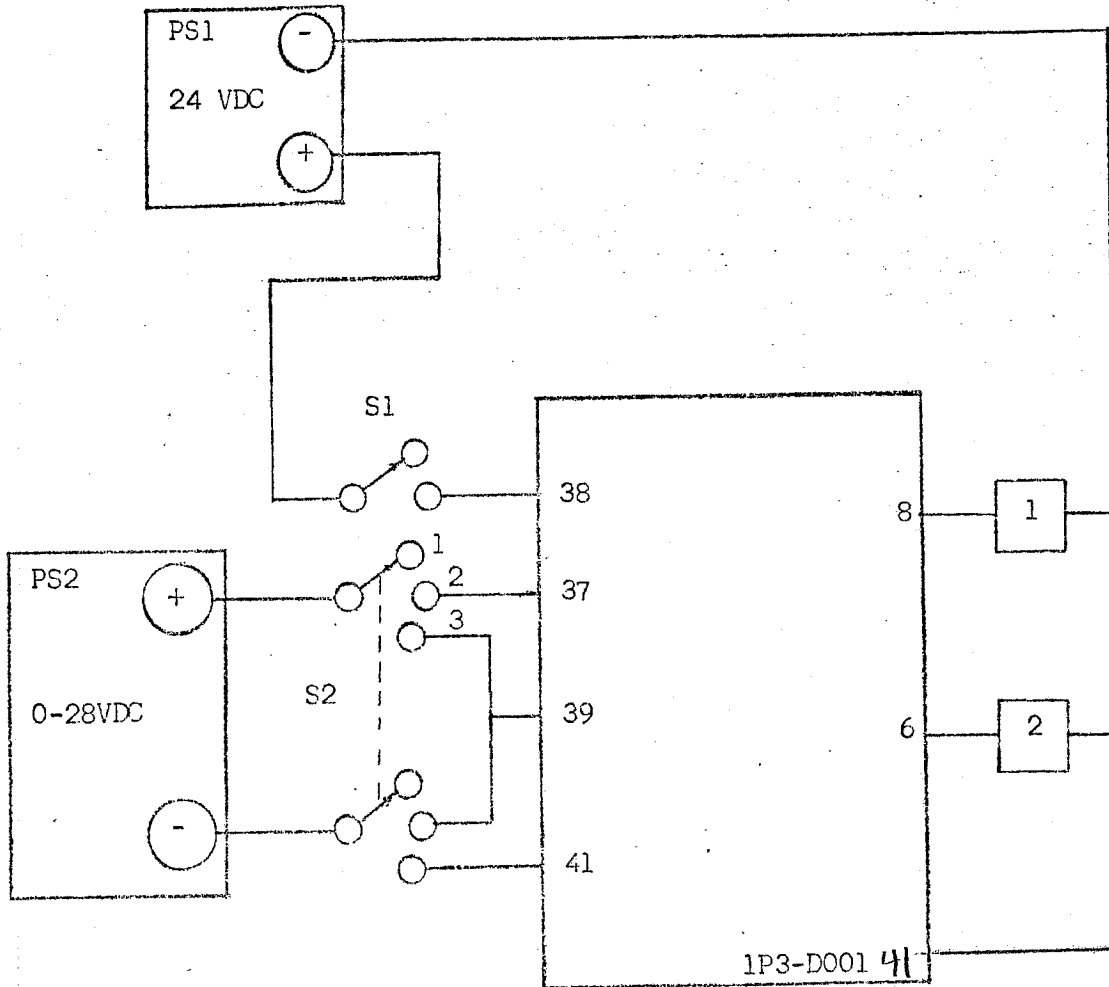

FIGURE 1
- A. Connect the board as shown in Figure 1.